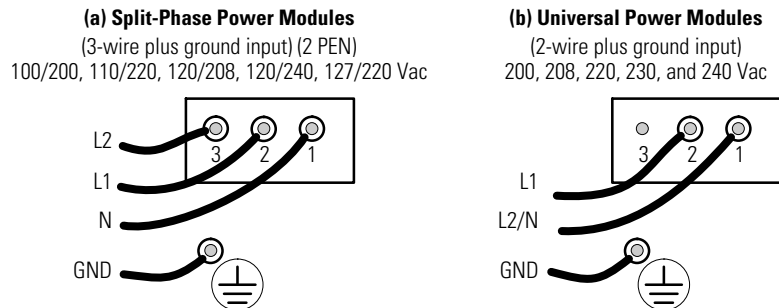

Figure 28. UPS Input Wiring
- Wire the UPS for the proper input voltage as shown in Figure 28.
Confirm that the UPS is wired for the proper input voltage as shown in Figure 28, and that the proper power modules (either split-phase or universal) are installed to produce the desired output voltage. Do not mix the two types of power modules in the same UPS cabinet.